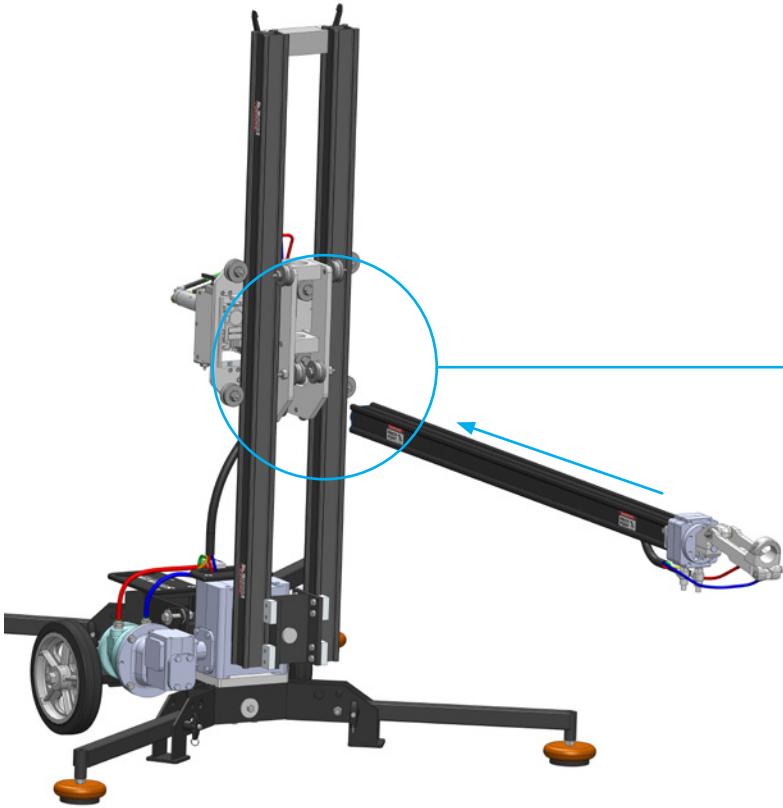

FIGURE 1
1. Install the Horizontal Rail Assembly with Wrist through the Carriage Assembly located on the Vertical Rail Assembly. **(Figure 1)**